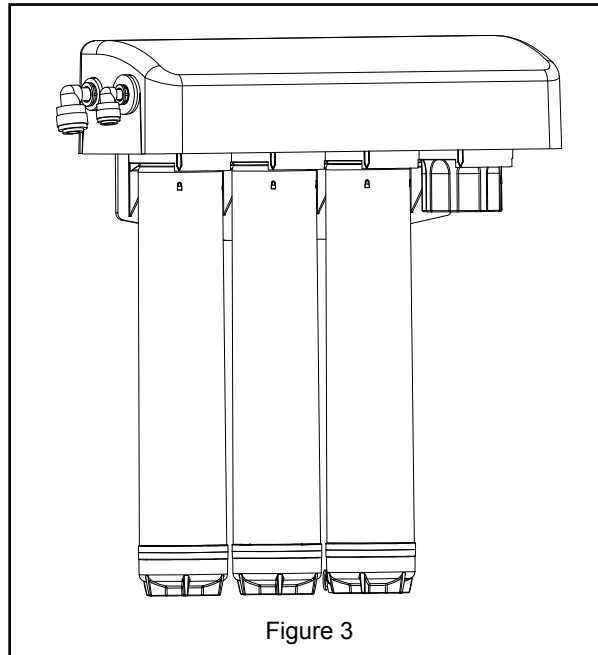

Figure 3
- 2) If only three cartridges are to be inserted into the manifold, the bypass plug cartridge must be inserted in the 4th position. See Figure 3.